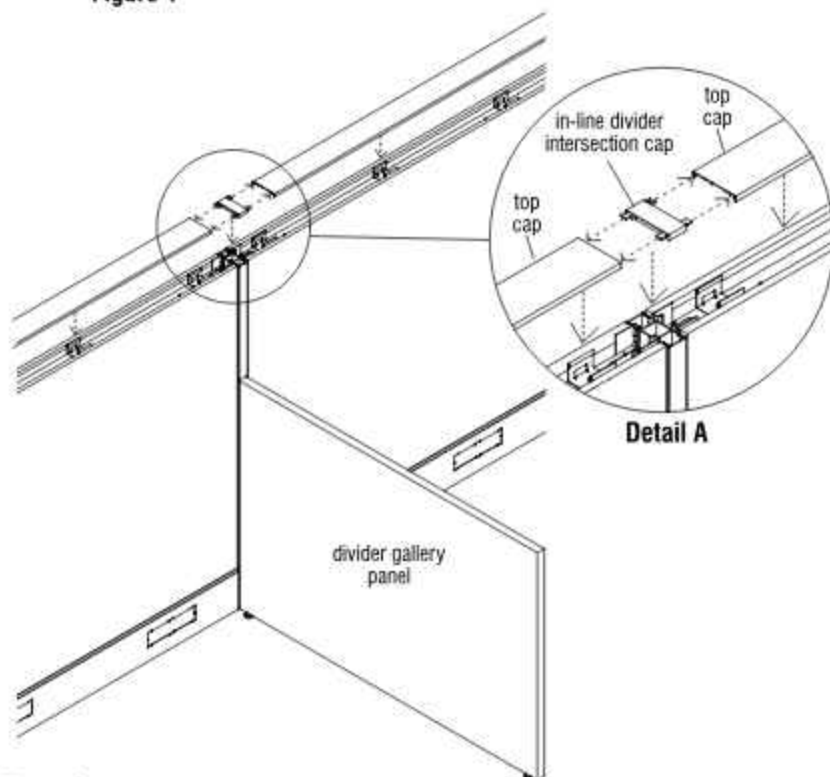

Figure 2
2. Install in-line divider intersection cap horizontal tabs into Unite panel top caps and then snap into place (Figure 2 & Detail A).